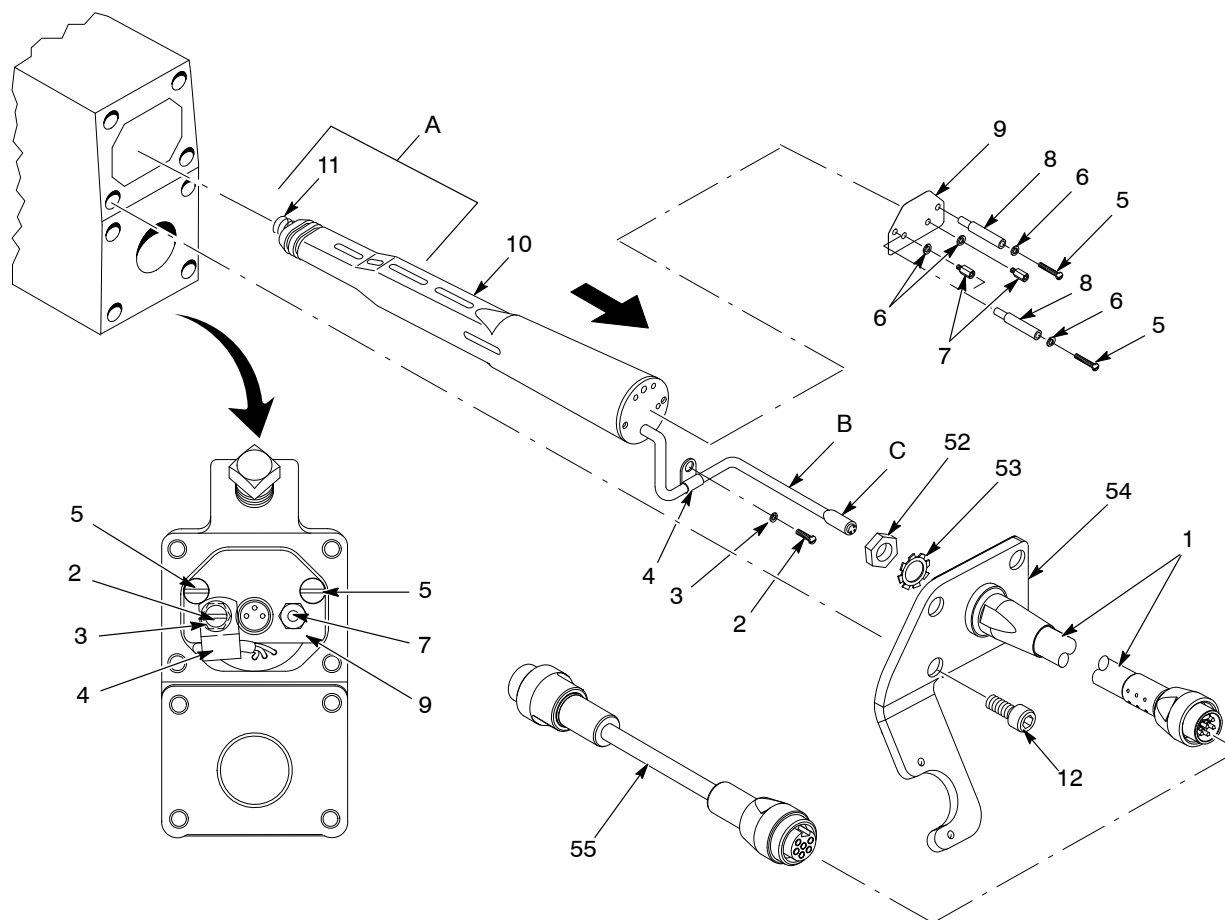

Figure 7-6 Multiplier and the Electrostatic Cable Replacement
3. See Figure 7-6. Remove the two screws securing the fluid hose to the bracket (54). Remove the fluid hose from the bracket. Refer to *Fluid Supply Hose Replacement* on page 7-15.
4. Remove the four screws (12) securing the bracket to the spray gun body.
5. Unplug the gun cable (1) from the multiplier connector (C).
6. Remove the two upper screws (5), spacers (8), and lock washers (6) located inside the piston block body cavity.
2. See Figure 7-6. Remove the following items from the old multiplier and install them on the new multiplier:
- screw (2), flat washer (3), and cable clamp (4)
- standoff (7)
- heat sink plate (9)
3. See Figure 7-6. Disconnect the gun cable (1) from the extension cable (55).
4. Remove the screws (12) from the bracket (54) on the spray gun.
5. Disconnect the gun cable from the multiplier connector (C).
6. Remove the nut (52) and lock washer (53) to remove the gun cable from the bracket.